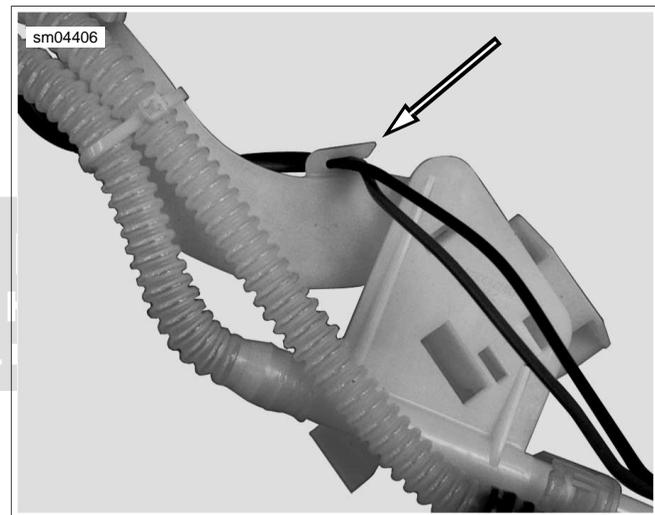

Figure 4-36. Capture Wires in Molded Clip
3. Route wire harness through molded clip at front of fuel pump bracket. See Figure 4-36.